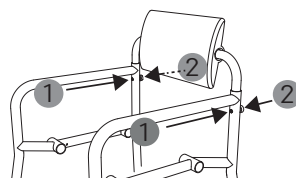

Fig. 10
3. Once you have set it to the required height, secure the backrest again with the bolts and knurled nuts. Make sure you insert the bolts from the front (1, Fig. 10) and that you fasten the knurled nuts securely on the rear of the product (2, Fig. 10).